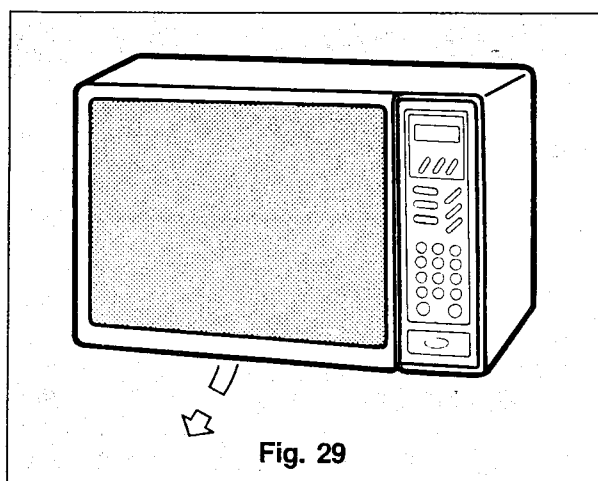

Fig. 29
12. Check the Gap between the Door Seal and the Oven Front Plate (Refer to Fig. 29)